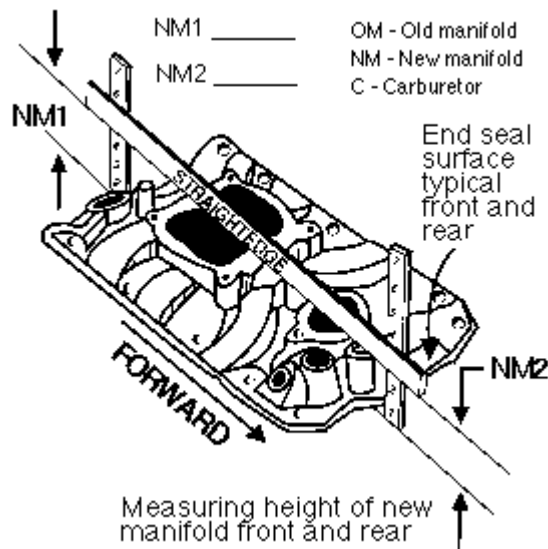

Figure 4
7. Measure distance from end seal surface as you did on stock manifold. See Figure 4.